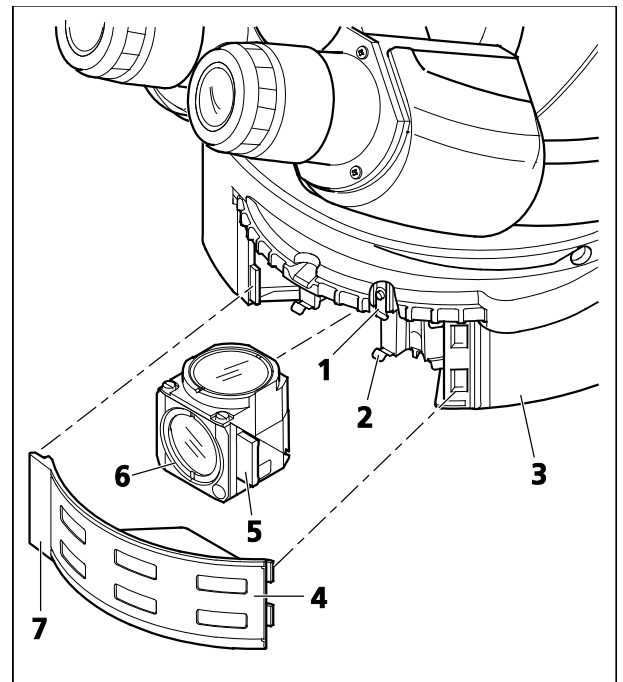

Fig. 19 Changing P&C reflector modules
- Fold up cover flap (Fig. 19/4) to the right on reflector turret (Fig. 19/3) and unhinge it using the handle (Fig. 19/7) on the left.
- Holding it by the handles (Fig. 19/5) to the right and left of the module, insert the module (Fig. 19/6) obliquely from the bottom into the upper spring clips (Fig. 19/1) on the reflector turret.
- Then press the bottom of the module until it snaps securely into the lower spring clips (Fig. 19/2) of the reflector turret as well.